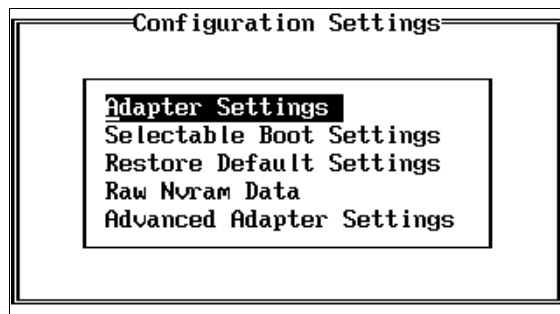

Figure 9-4 QLogic - Configuration submenu
- You need to discover the WWN of your FC port. The WWN is the unique identifier, which will be seen by the DS3000. Select Configuration Settings and in the next submenu Adapter Settings (Figure 9-4).